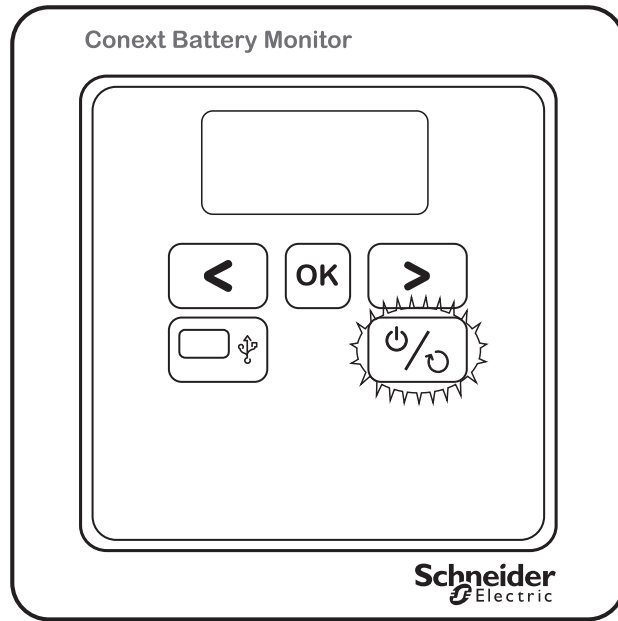

Figure 3-1 Location of front panel power LED indicator
2. Wait for up to two minutes while the LCD display and Power LED (Figure 3-1) flash intermittently during the startup and initialization sequence.